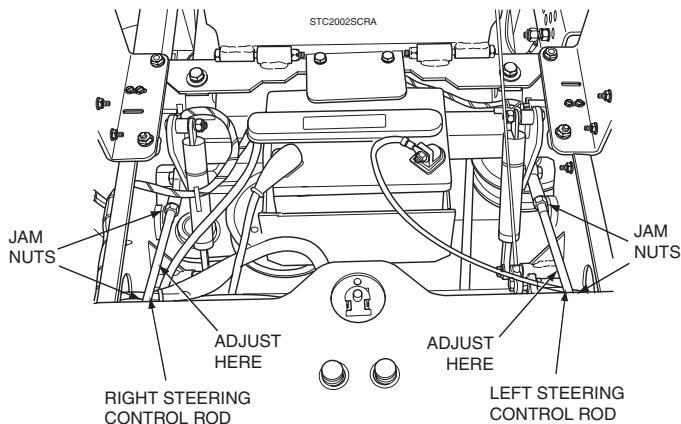

Figure 6-3. Steering Control Rod Adjustment
4. Adjust the RH wheel by loosening the jam nuts on the steering control rod and turning the rod until the drive wheel turns in the forward direction. Turn the rod back until the drive wheel stops moving. Turn the rod an additional 1/2 turn. See Figure 6-3.
5. Tighten the jam nuts and repeat for the LH wheel. See Figure 6-3.
- A. Stop the machine and place the steering control levers in the neutral position. Loosen the lock nuts securing the ball joints at each end of the LH steering control rod. Rotate the control rod to lengthen the rod and tighten the lock nuts. This will cause the control rod to stroke the LH pump less, slowing down the LH wheel. See Figure 6-3.
A. Stop the machine and place the steering control levers in the neutral position. Loosen the lock nuts securing the ball joints at each end of the RH steering control rod. Rotate the control rod to lengthen the rod and tighten the lock nuts. This will cause the control rod to stroke the RH pump less, slowing down the RH wheel. See Figure 6-3.